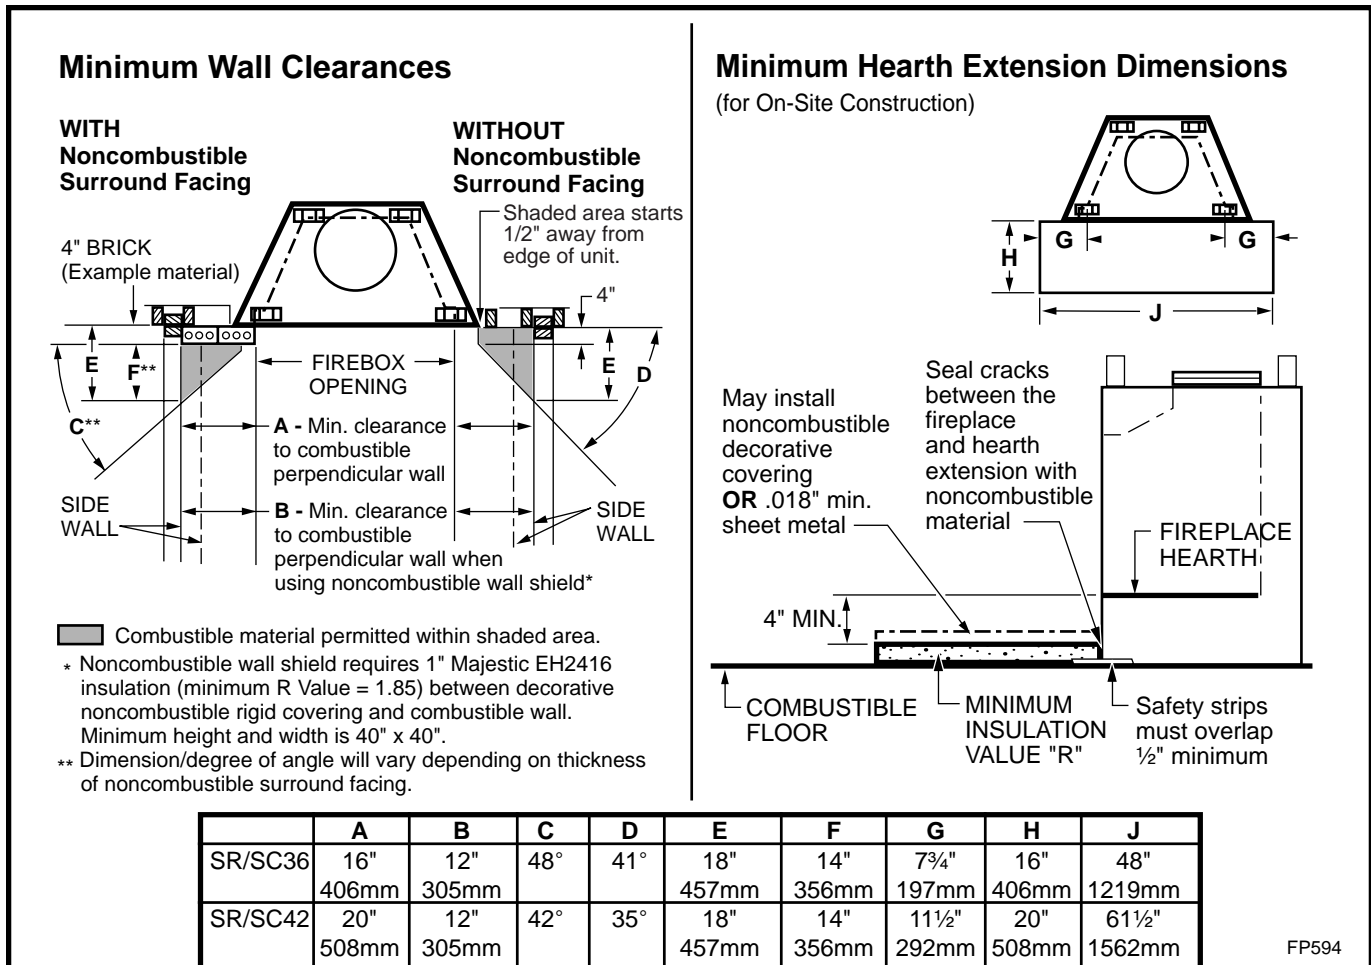

Fig. 23 Combustible side wall protection and hearth extension dimensions.
Often a decorative surround or vertical portion of the mantel is desired. If this is constructed of any combustible material it must be within the safe zone indicated in Figure 23.
Adjacent combustible side walls that are within the minimum dimensions shown in Figure 23 of fireplace opening must be protected with Vermont Castings, Majestic Products Wall Shield Model SP40 or a specifically built wall shield described below.
A hearth extension is required to protect a combustible floor in front of the fireplace. Refer to Figure 23 for minimum dimensions and mounting detail.
The hearth extension described in Figure 23 must be a durable non-combustible material with a minimum (total) Rt value of 1.09; see Figure 24 for examples. The overall height (above a combustible floor), depth and width must be as indicated, with the extension centered to the fireplace opening.
The top of insulation must be covered with a non-combustible decorative covering **or** a piece of .018" minimum sheet metal, to protect hearth extension material. (Fig. 23)
Secure the hearth extension to the floor to prevent shifting, using trim molding or other similar means at three (3) outer edges. Seal crack between the fireplace hearth and hearth extension with a non-combustible material. (Figs. 23 and 25)
**WARNING: HEARTH EXTENSION MUST BE INSTALLED IN ACCORDANCE WITH FIGURE 23 AND MUST NOT COVER THE BOTTOM FRONT OPENING OF THE CIRCULATING MODEL.**